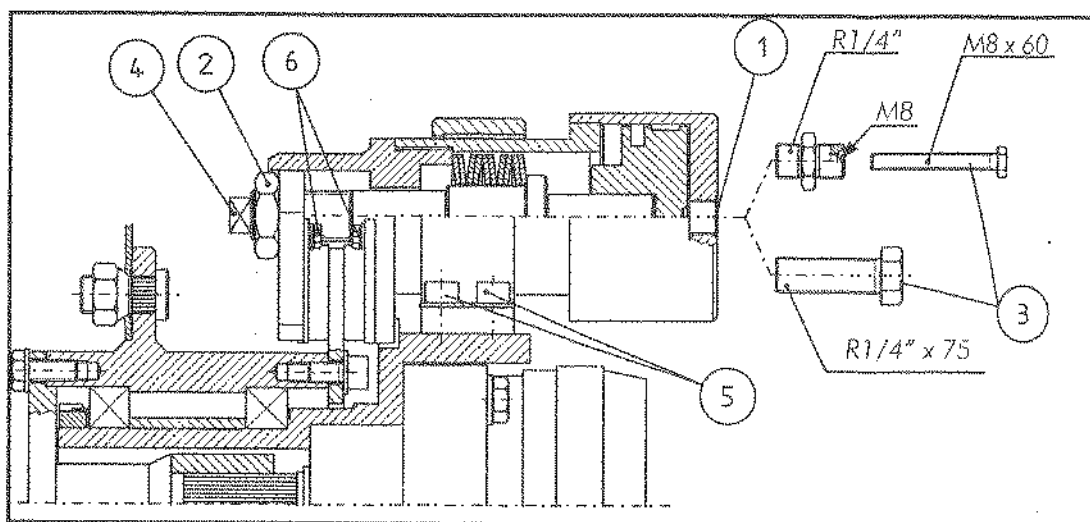

Figure 12-1. Changing brake pads
4. Remove nut 2 (figure 12-1)
6. Turn shank 4 (figure 12-1) to adjust the gap between brake pad and disc to 0,8 - 1,0 mm. Note that when the gap is measured the other brake pad is pressing against the brake disc. Adjust the gap between the brake pad and disc to be equal in all four brakes to ensure smooth braking action.